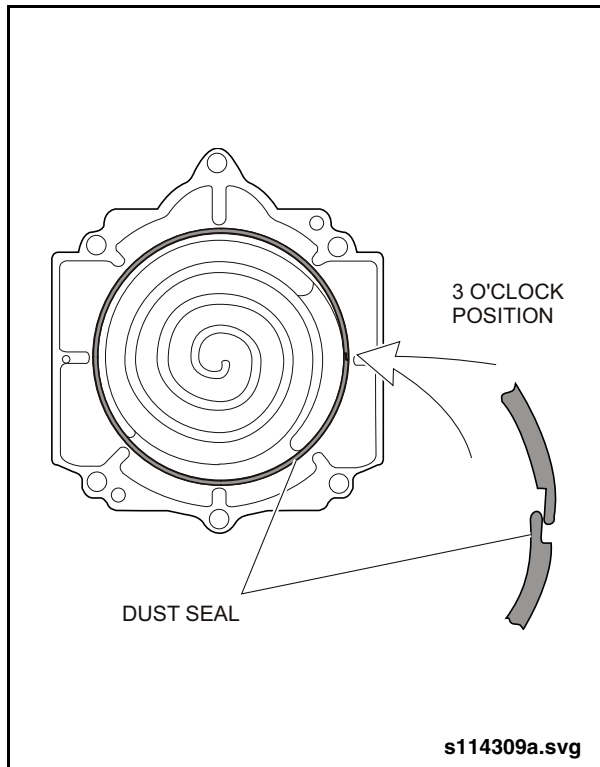

Fig. 9: Dust Seal Installation
9. Insert new dust seal on backup tube. Face seamed section of dust seal at the 3 o'clock position. See “Fig. 9: Dust Seal Installation” on page 8.